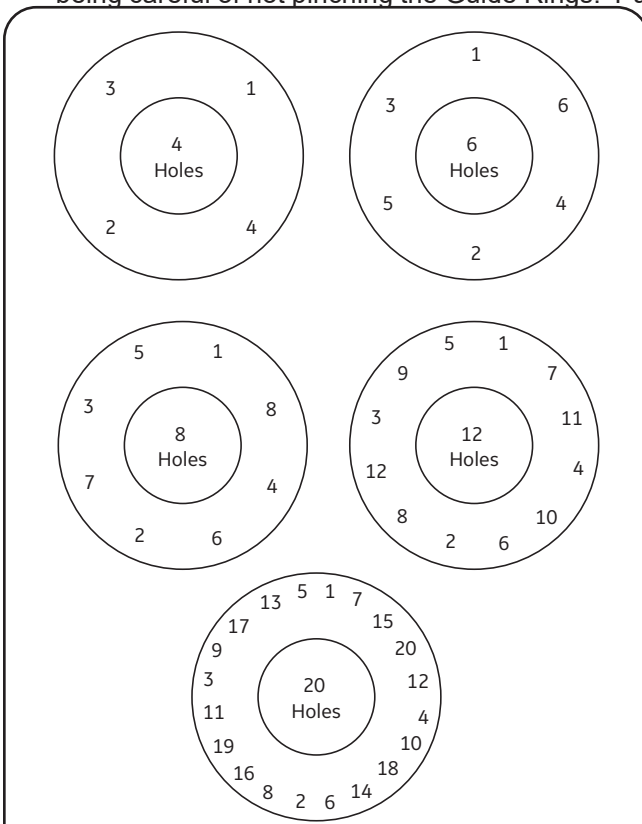

Figure 21: Bolt Tightening Patterns
7. Install Cover Plate on top of Base such that the pilot will be aligned for proper tubing connections. Make note of the length of the studs or Cap Screws. The two longer ones will straddle the vertical line of the inlet sensing port on the Main Base of the pilot valve. Install the bracket between the Cover Plate and the Nut or Cap Screw. Torque to the values shown in Table 9 in 15 ft-lb (20 N-m) increments making sure there is a uniform gap between the Base and the Cover Plate. Torque in the sequence shown in Figure 21. Be sure that the bracket is aligned so that the two smaller pilot attachment holes are above the horizontal plane of the Cover Plate.
7. Install Cover Plate on top of Base such that the pilot will be aligned for proper tubing connections. Make note of the length of the studs or Cap Screws. The two longer ones will straddle the vertical line of the inlet sensing port on the Main Base of the pilot valve. Install the bracket between the Cover Plate and the Nut or Cap Screw. Torque to the values found in Table 9 using the torque patterns in Figure 21 and Table 10.